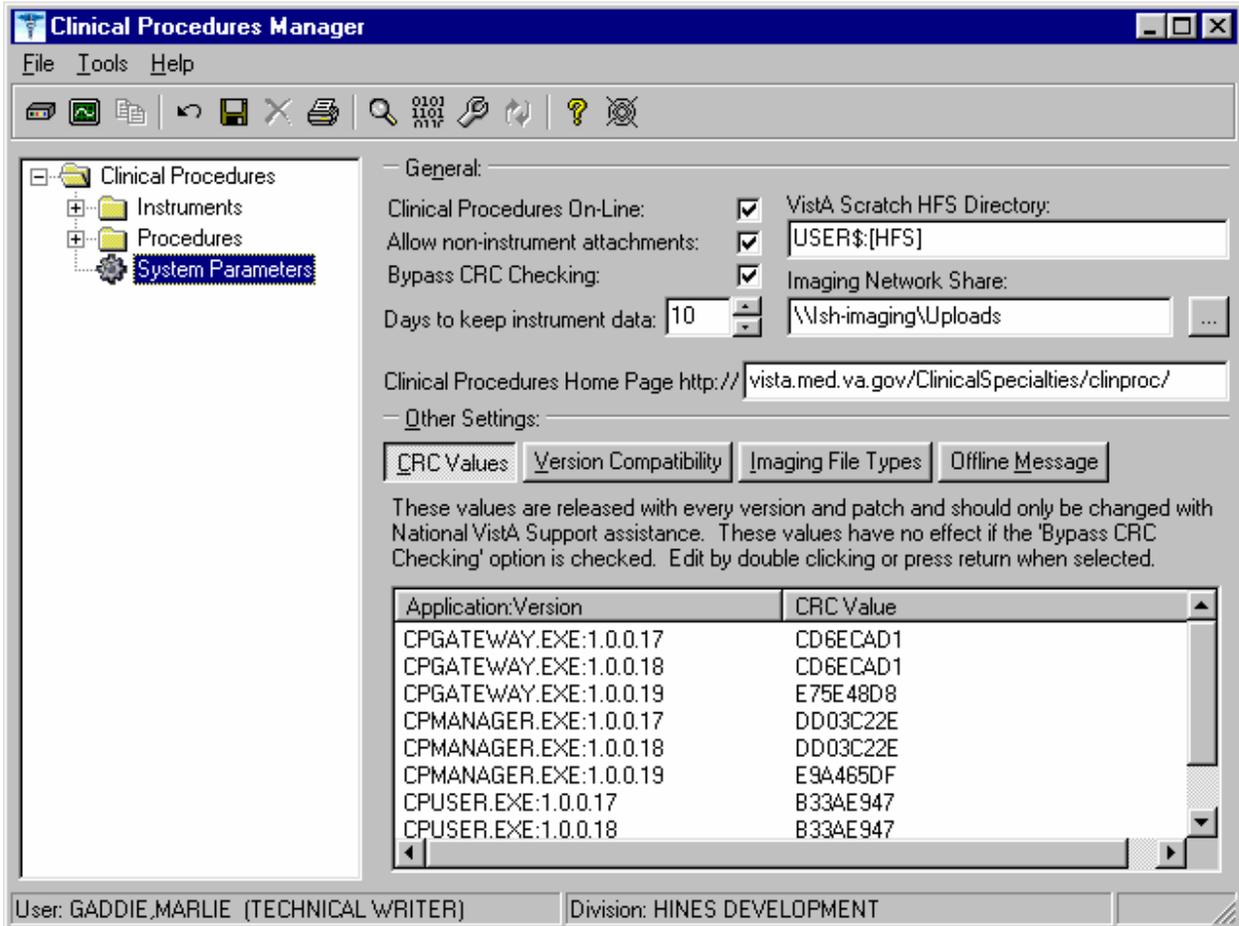

Fig. 6-9
1. Click **System Parameters**, which is displayed under the Clinical Procedures folder. The System Parameters Edit window is displayed. See Figure 6-9.